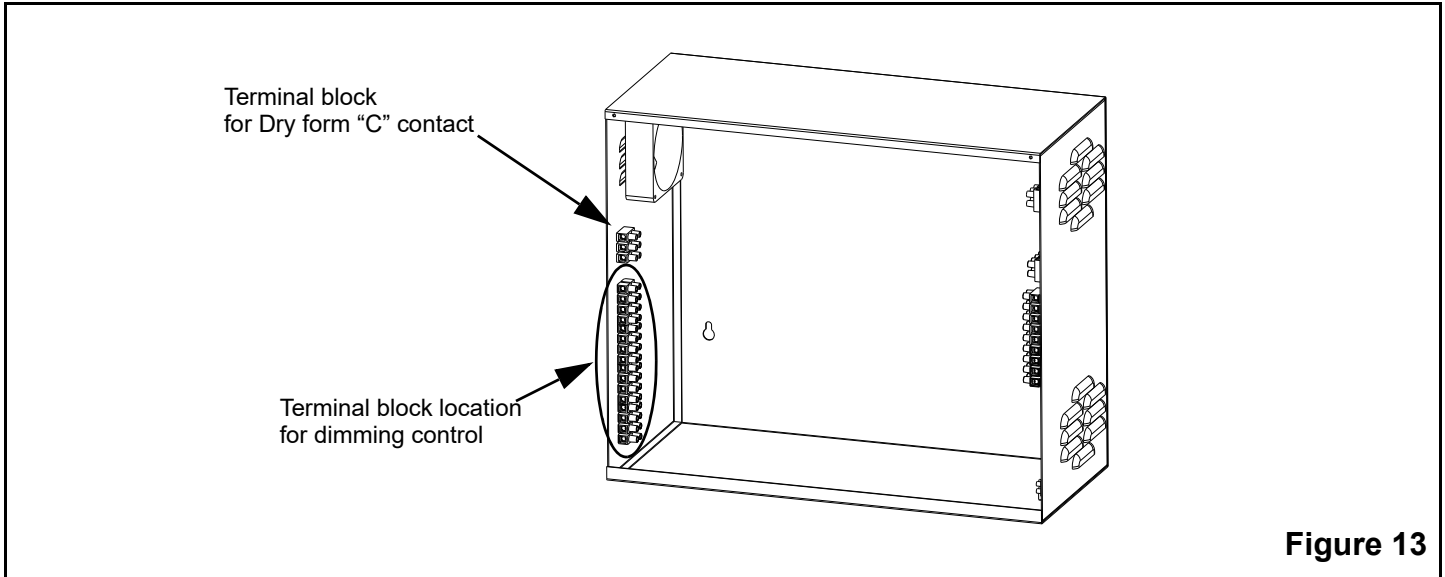

Figure 13
2. The terminal blocks for connecting the 0-10V dimming control wires are located on the left-hand side of the cabinet as illustrated in figure 13.